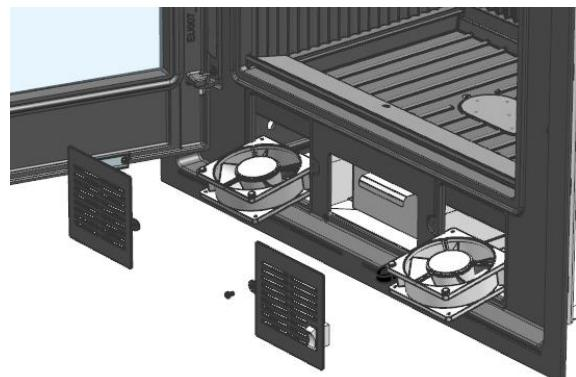

Fig.3
9. Pull them out tilted through the hole in the front (Fig. 3).